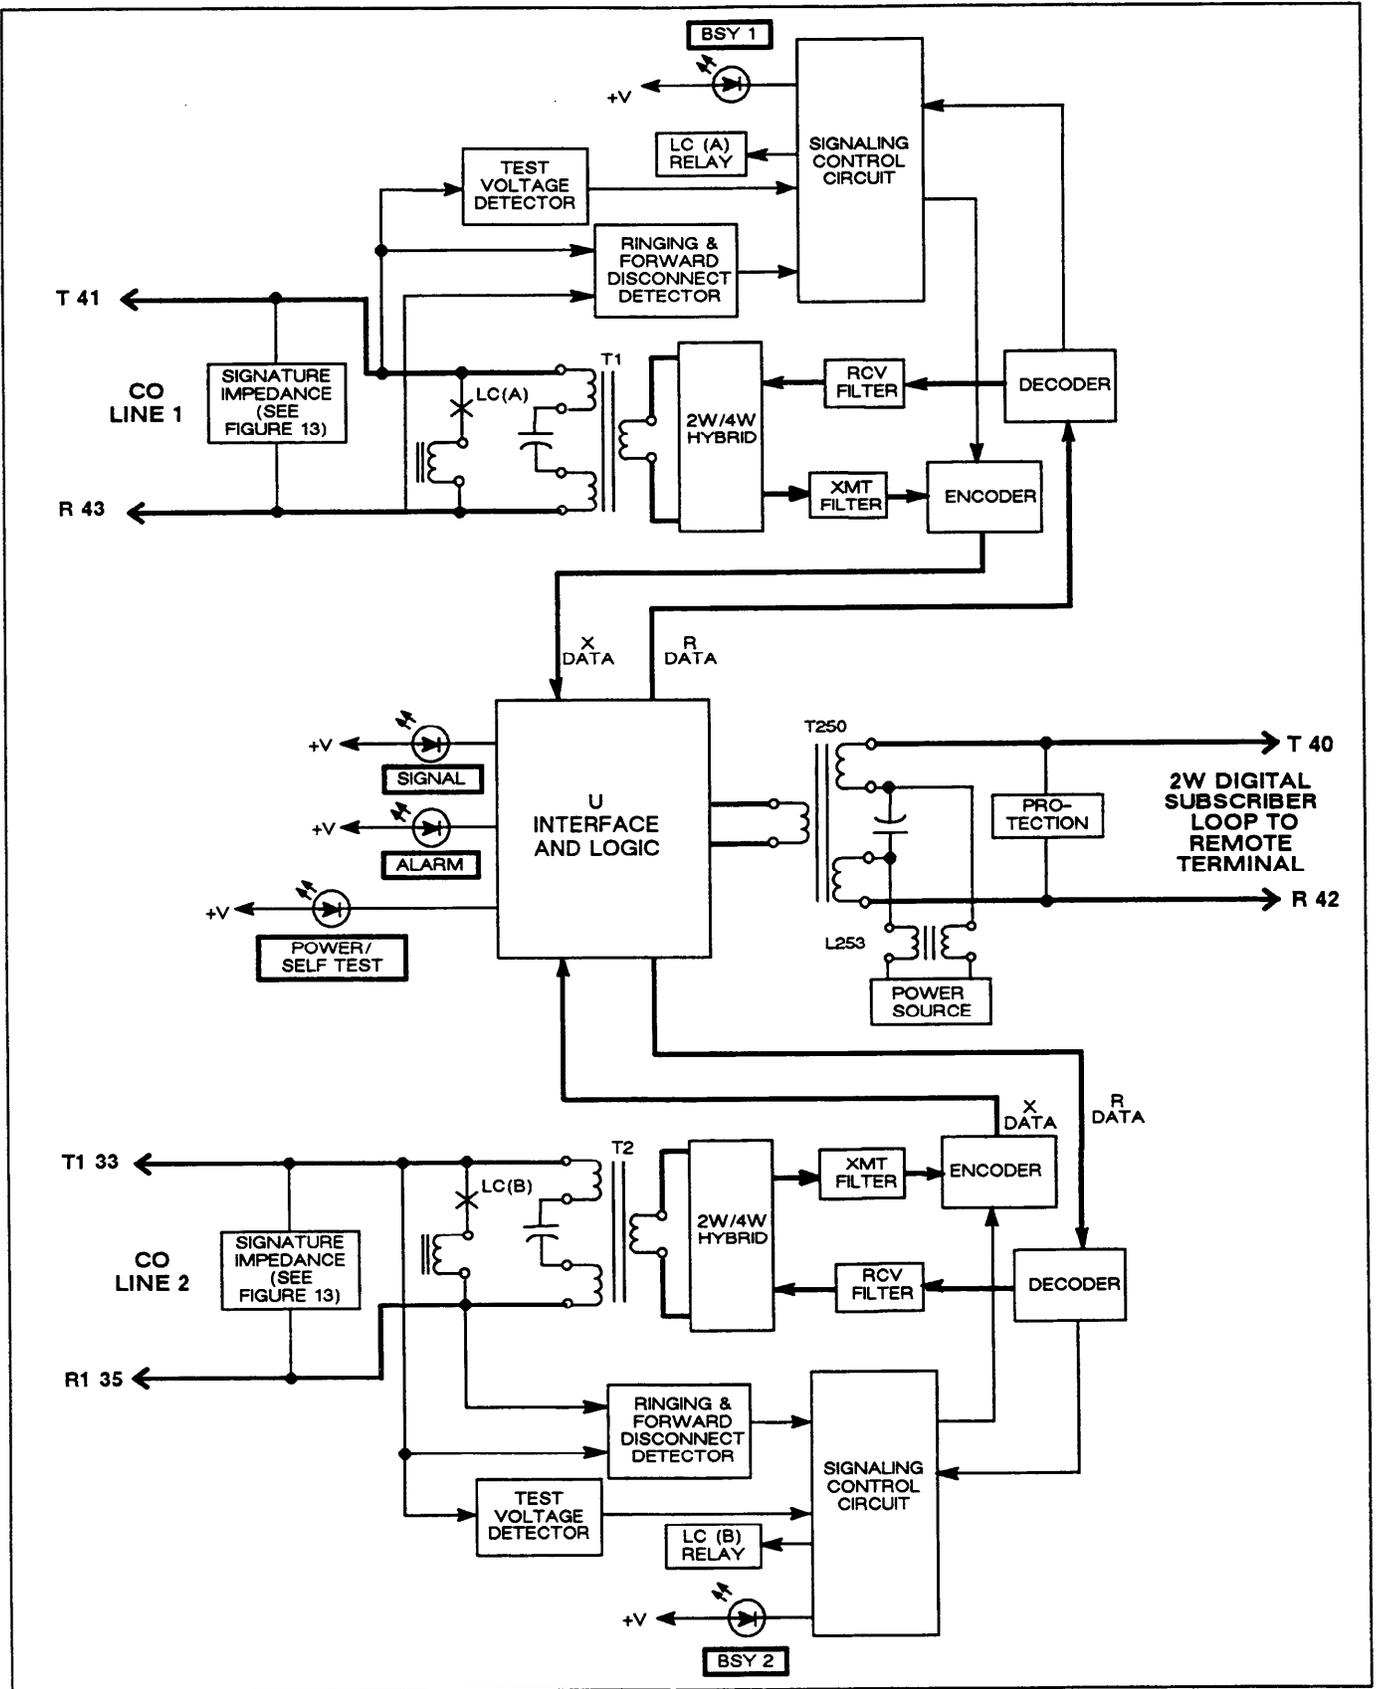

Figure 14. The DDL230 COT Line Unit Block Diagram
**3.05** At the COT (see Figure 14), the receive data from the U interface is again separated. The operation of the Voice Frequency circuit is similar to that of the RT circuit. The subscriber's on-hook, off-hook status is decoded and applied to the loop closure circuitry. The hook-switch status is transmitted to the Central Office. In the transmit direction, the Voice Frequency circuit is also similar to the RT circuit. The ringing status of the Central Office lines is detected by the COT Line Unit and encoded into the transmit data stream.